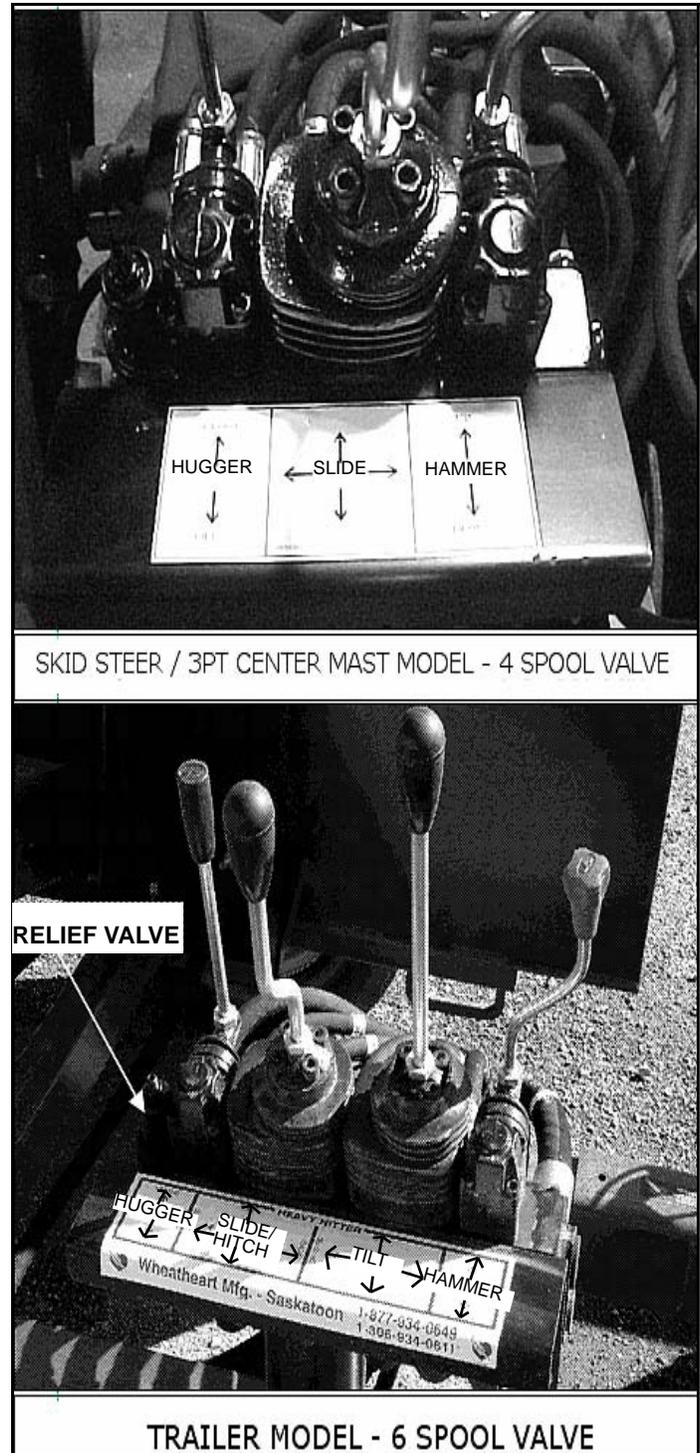

Figure 5.5 Hydraulic Valve Instructional Decal
**Note:** *See hydraulic valve instructional decal for control details Figure 5.5.*
1. Use the hydraulic control valves (Figure 5.5) to position the hammer in the desired position. With the post held in the hugger and the outrigger leg (HH Plus only) locked in the down position, raise the impact head approximately 1' to 2' above the post before driving the post down. This partial stroke is used to set the post.